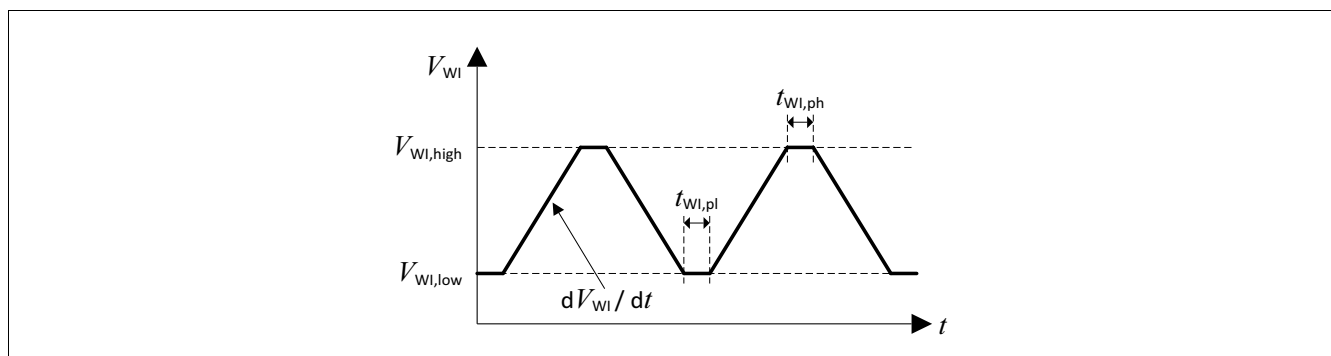

Figure 9 Test pulses watchdog input WI
The watchdog is triggered by a falling edge at the watchdog input pin “WI”. The amplitude and slope of this signal has to comply with the specification (Table “Watchdog input WI” on Page 29). For details regarding test pulses, see Figure 9 “Test pulses watchdog input WI” on Page 27.
- 2) For details on applied test pulse, see Figure 9